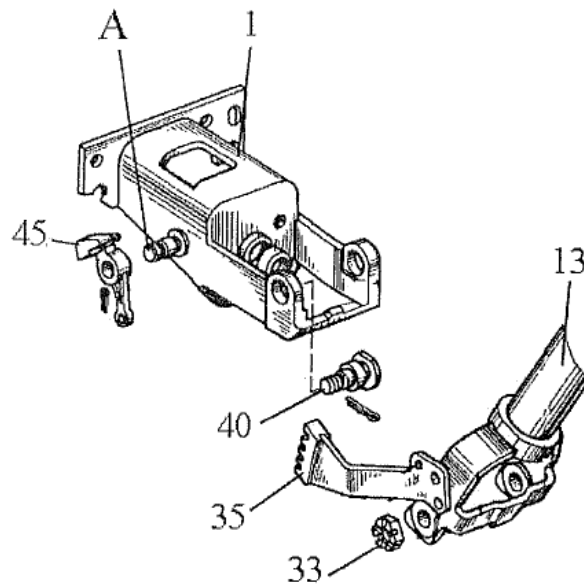

Figure 7.15
- 6) connect pipe yoke (13), (figure 7.15) with arm (1), having performed the following operations: